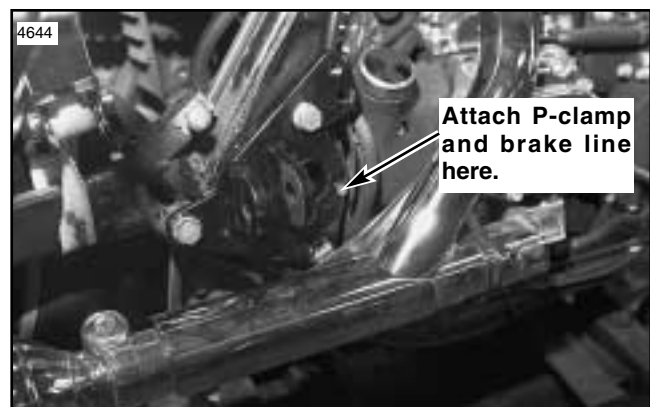

Figure 10. Rear Mount
3. See Service Parts illustration. Position the rear mount (1) over the three mounting holes and be certain roll pin enters the alignment hole in the rubber mount. Check the left pivot shaft rubber mount to be sure it is in place.
4. Take one of the lockwashers removed with right footrest bracket and place over bolt (21). Insert bolt through passenger footboard mount, through upper hole in rear mount (1) and thread into upper tapped hole in frame. Take one of the bolts and the remaining lockwasher removed with right footrest bracket and place the washer over the bolt. Insert the bolt through the bottom front hole in rear mount and thread into lower hole in frame. Tighten both bolts to approximately 20 ft-lbs.
6. Insert bolt (20) with lockwasher (22) through mount (1) and block. Tighten the three mounting bolts to 34-42 ft-lbs.
7. See Figure 10. Install P-clamp (removed in step 2) on rear brake line and secure with stock screw.